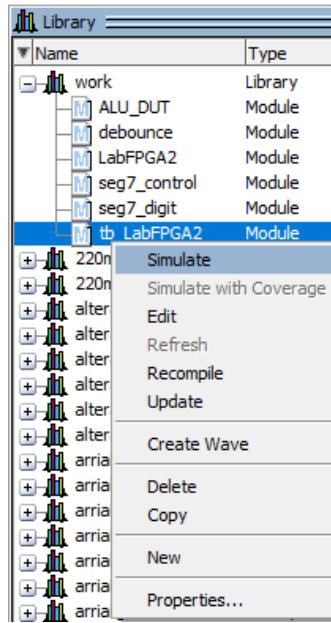

Figure 11. Start Simulation
29. Click on the **Library** tab and expand the library named **work**. You will see all compiled modules from the project files, including the testbench, top-level module, and any submodules. Right-click on tb_LabFPGA2 and select **Simulate**, as shown in Figure 11.